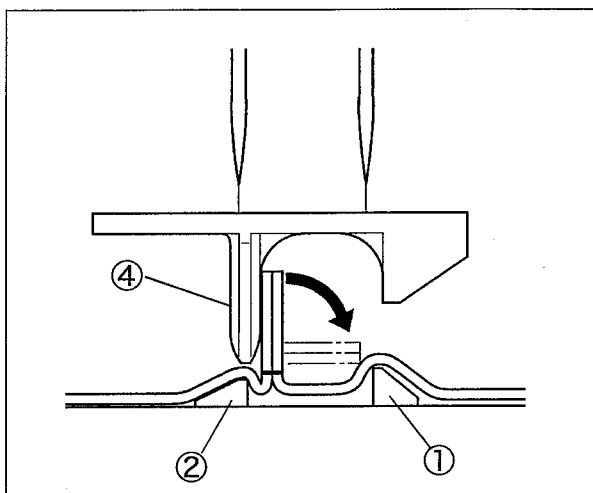

Fig. 13
Let the edges of material which have been sewn together face up. Adjust the fabric guide (right) ① and (left) ② to make the edges come to the center of two needles when lying them down. (Fig. 13)